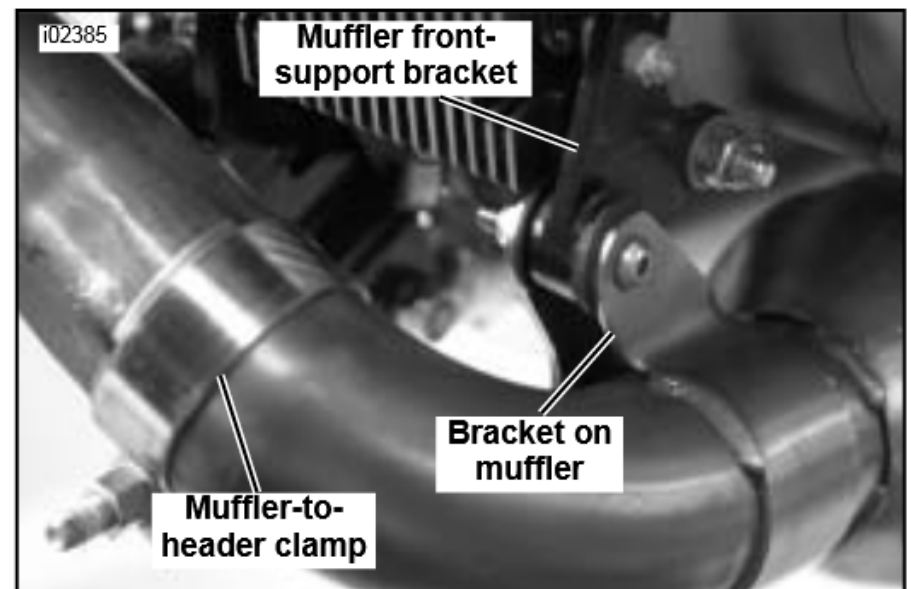

Figure 3. Older front-support bracket
3. See Figure 3. Loosen the clamp fastening the stock muffler to the exhaust-header pipe.
5. See Figure 3. Slide a new muffler-to-header clamp onto the muffler inlet.
10. See Figure 3. Tighten the muffler-to-header clamp to 20-25 ft. lbs (27.1-33.9 Nm).